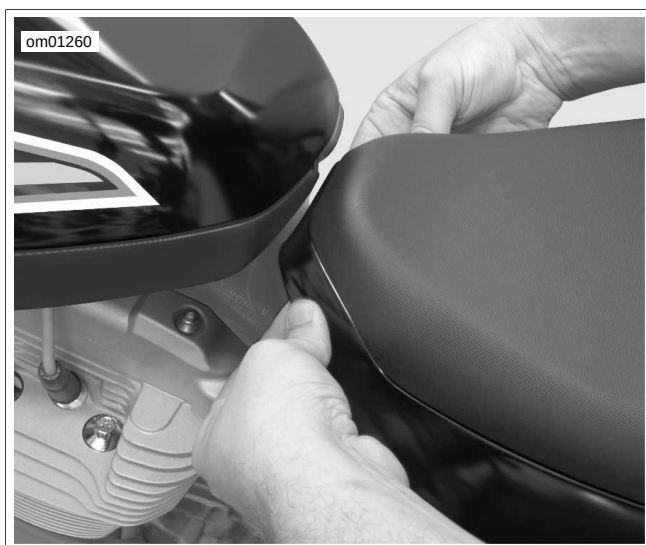

Figure 2-253. Front Seat Tabs (Under Tail Section): XR 1200 Model
1. See Figure 2-253. Reach under front end of tail section and press the two seat tabs inward.